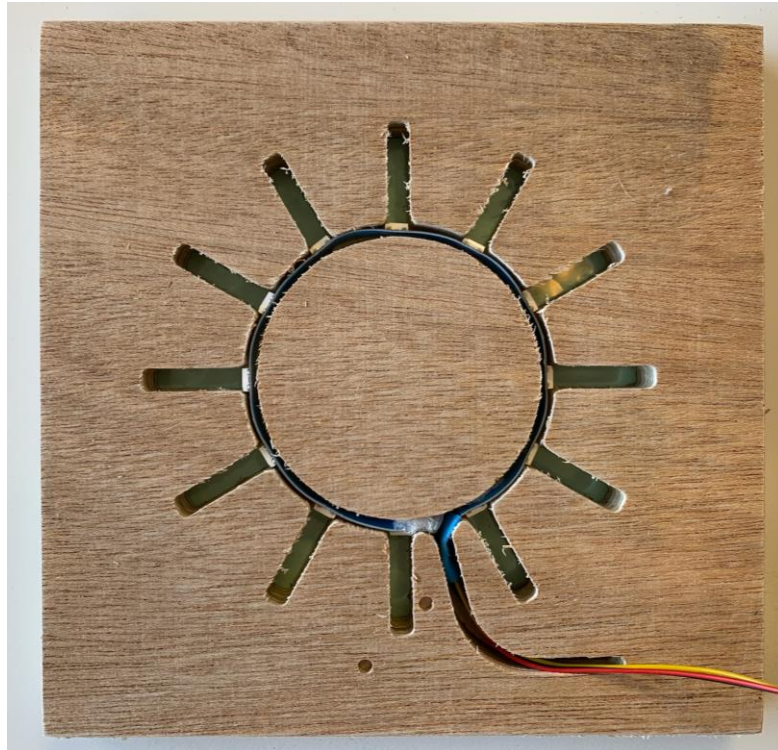

Figure 3. Insert LED strip from the back side.
- 2) Flip the CLOQ face over to expose the back side. Carefully insert the LED strip into the machined circle with one LED pressed into the end of each slot. Make sure the LED strip is oriented as shown in Figure 3, with the strip inserted counterclockwise and the wire connector exiting through the 'j'-shaped groove.